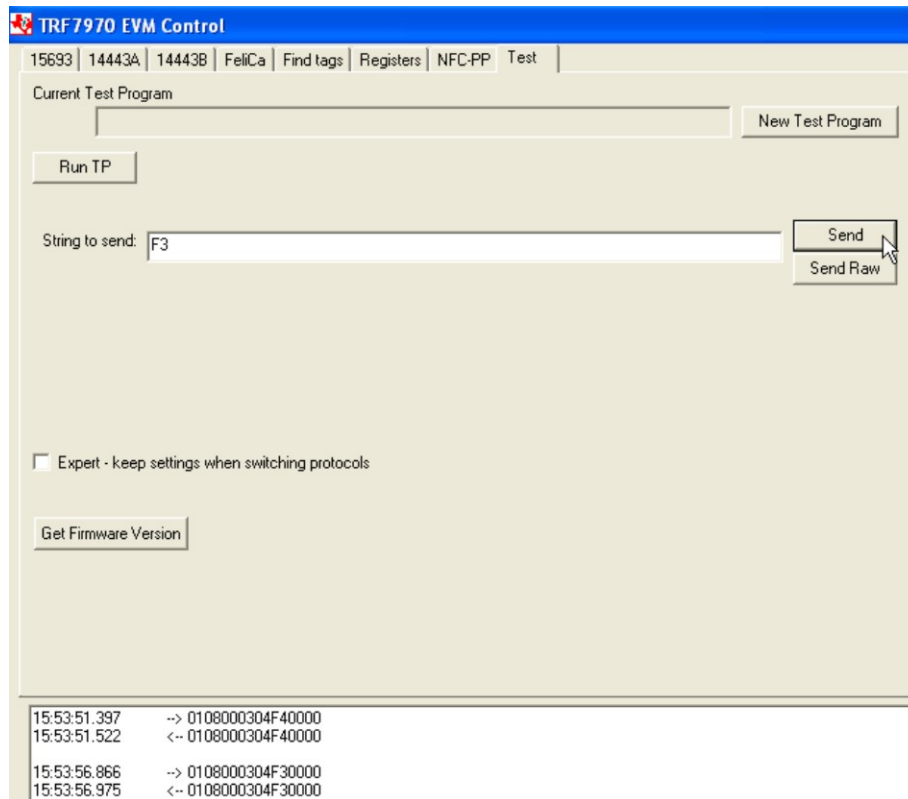

Figure 41. Sending GPIO Control Command
2. To turn on or off the MSP430F2370 GPIO-controlled LEDs on the EVM. These could also be used in the development environment for other functions such as turning on or off other peripherals or for digital control of reed relays and switches (see Table 8 and Figure 41).